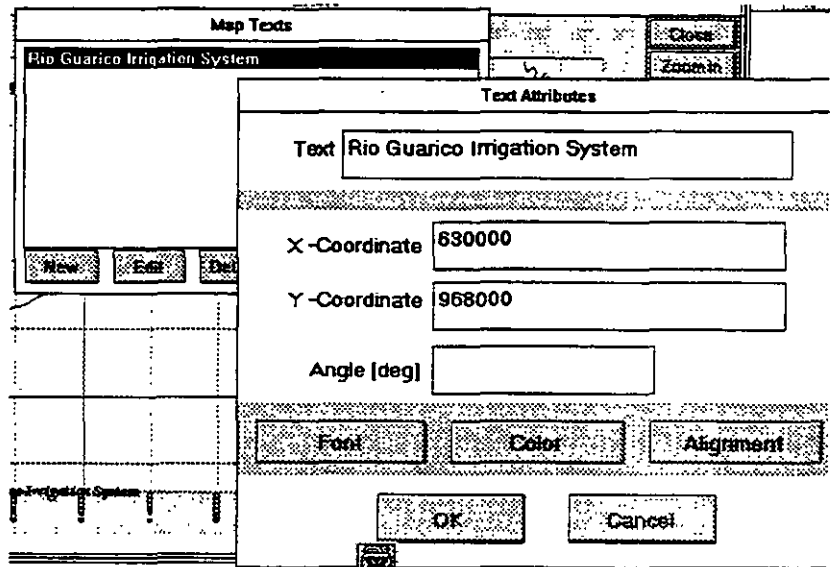

Figure 15-62
2. Click on **Edit** button. GWW will open another dialogue box, **Text Attributes**, as shown in Figure 15-62.